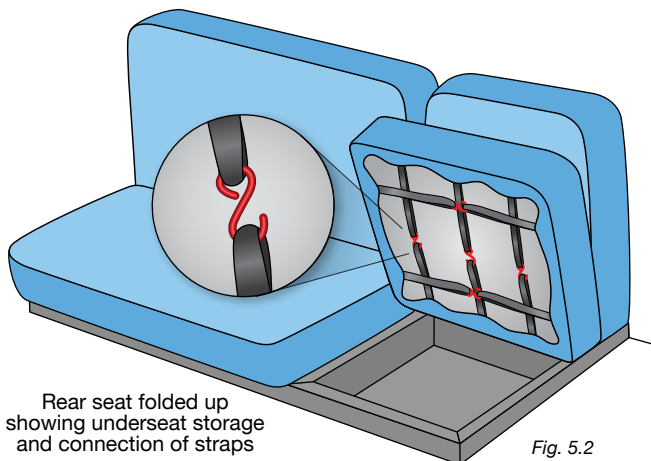

Fig. 5.2
C. If the rear seat cushion folds up, position the seat cushion cover on the seat cushion and adjust it for the best fit. Make sure any access holes align with the seat belt receptacles. Lift the seat cushion up and pull all the cover straps to the middle under the cushion. Link the straps together using the S-hooks (Fig. 5.2).